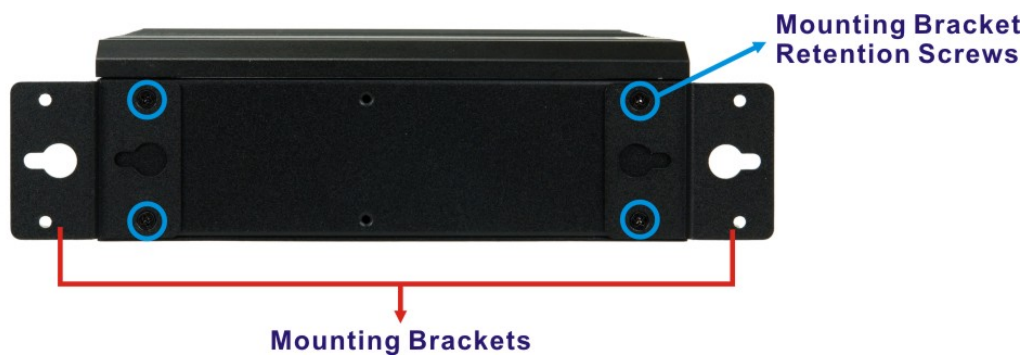

Figure 3-21: Mounting Bracket Retention Screws
- Step 2:** Secure the brackets to the system by inserting two retention screws (M3*5) into each bracket (**Figure 3-21**).